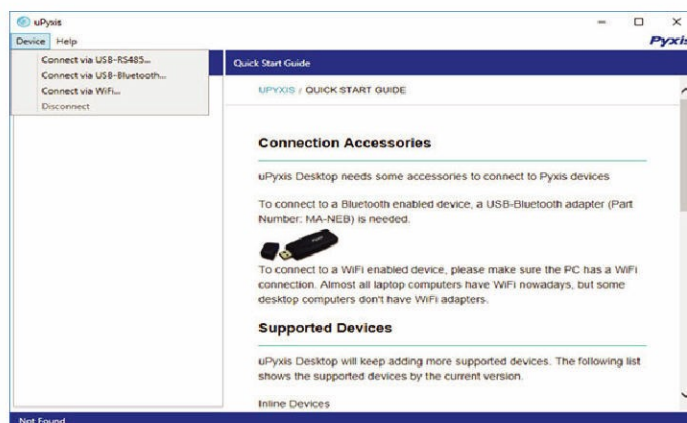
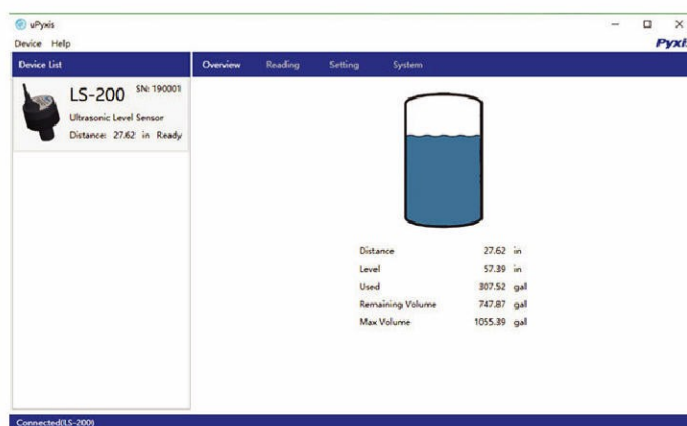

Figure 11. Connect uPyxis® desktop app to LS-200
Figure 12. Definitions of terms
3. On uPyxis® Desktop App, click menu Device -> **Connect via USB-Bluetooth** as shown in Figure 11. If the connection is successful, the LS-200 image and its Serial Number will be displayed in the left pane of the uPyxis® window as shown in Figure 12.